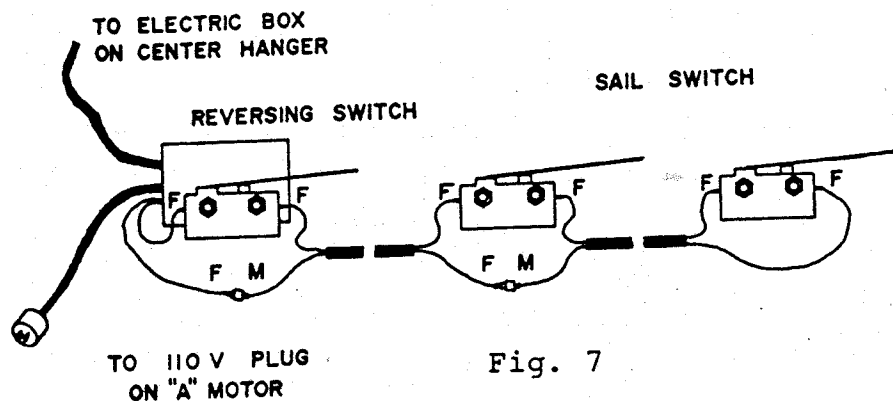

Fig. 7
7. Connect reversing switch and sail switch as shown in Fig. 7.